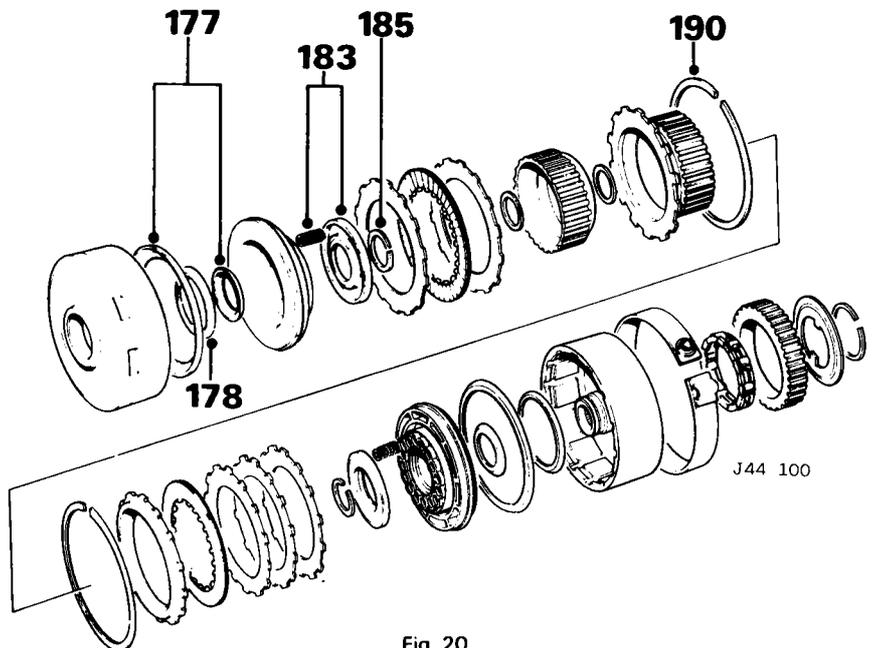

Fig. 20
- 177. Lubricate new inner and outer clutch piston seals (Fig. 20) with new transmission fluid and fit the seals to the forward clutch piston, lips of seals facing away from spring pockets.
- 178. Fit a new centre piston seal (Fig. 20) to the forward clutch housing, lip facing upwards; lubricate with new transmission fluid.
183. Fit the 16 clutch release springs (Fig. 20) to the spring pockets in the clutch piston.
185. Fit the snap-ring (Fig. 20) and remove the service tools.
190. Fit the direct clutch hub in the forward clutch housing and secure with the snap-ring (Fig. 20).